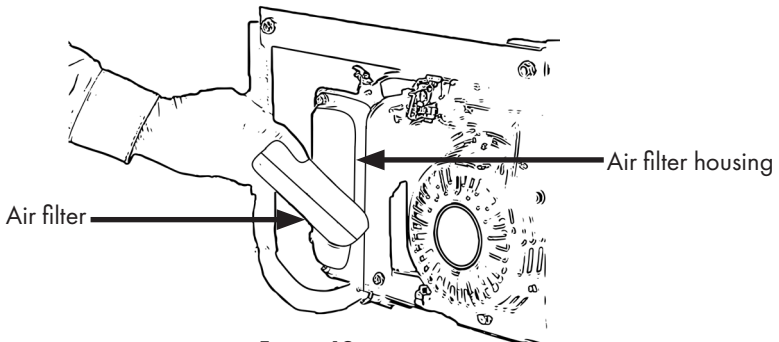

Figure 19
- Remove the air filter from the air filter housing, Fig. 19.